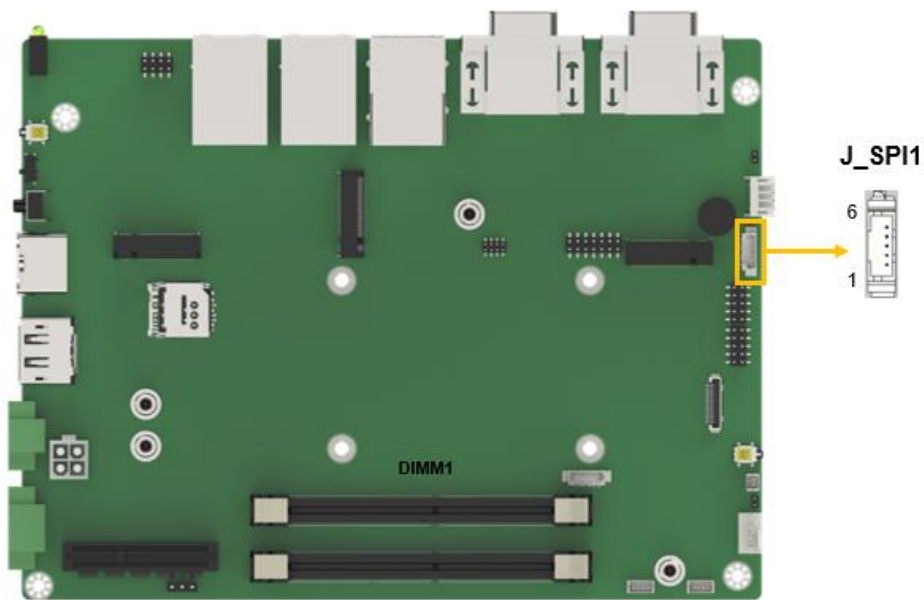

Figure 4-18: Flash SPI ROM Connector Location
- CN Location:** See **Figure 4-18**